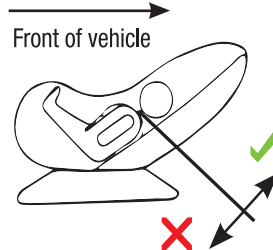

Figure 1
STEP 2 To adjust headrest, pull the strap on the headrest upwards (refer **Figure 1**).